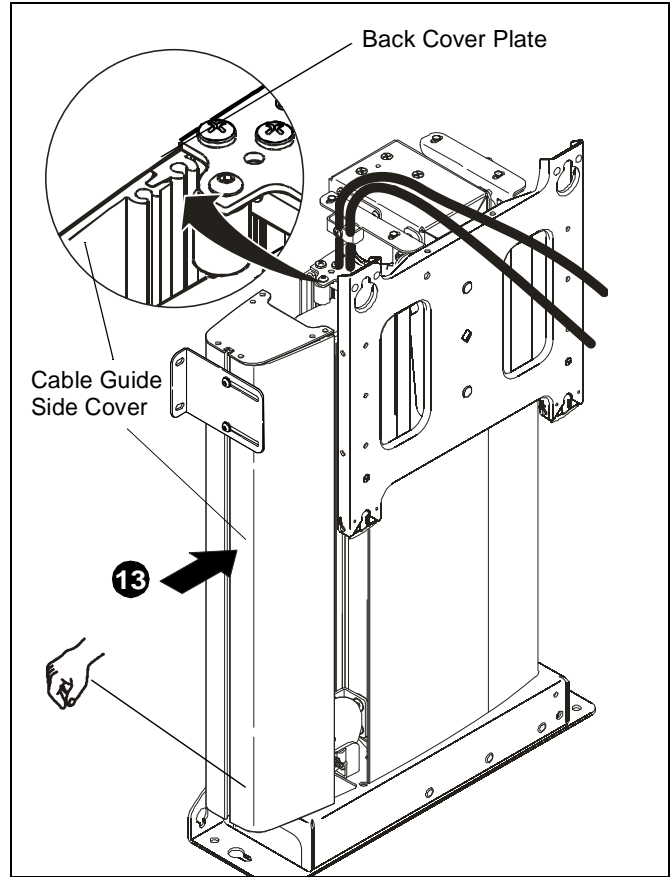

Figure 21
- Slide cable guide side cover over cable guide making certain lip on back cover plate is fully seated in groove in cable guide side cover. (See figure 21)